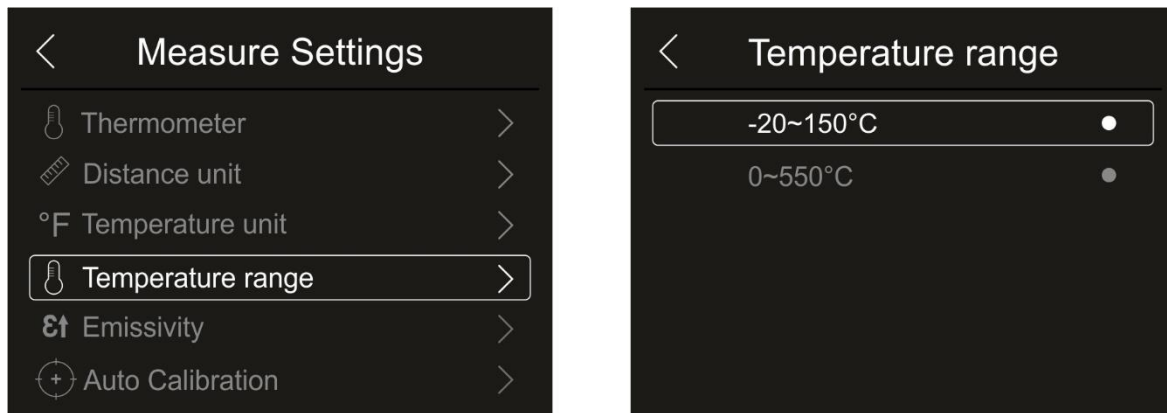

Fig. 27: Menu Setting the temperature measuring range
1. Touch the item “Temperature range” to set the instrument's measuring range of temperature (This option is relevant to the relevant to the Normal measuring mode). The screen in Fig. 27 – right side appears on the display: